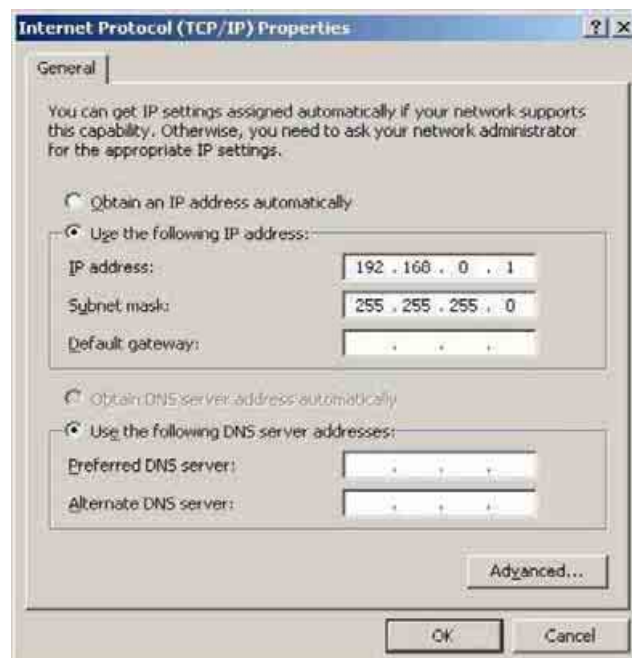

Fig. 26: TCP/IP properties of the workshop PC
Selecting the "Internet Protocol (TCP/IP)" entry and clicking the "Properties" option opens the "Properties of Internet Protocol (TCP/IP)" dialog box (see Fig. 26).
- Select the DHCP mode in the TCP/IP protocol by selecting "Obtain an IP address automatically" (see Fig. 26).
To do so, items 1-7 from chapter 3.1.6 must be repeated. In the dialog box (see Fig. 26), switch from the DHCP mode to the original setting and once again enter the values fixed in advance in writing (see item 5 in chapter 3.1.6).